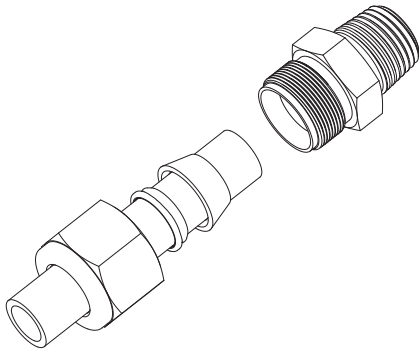

Fig. 3 Nut and Ferrule Orientation
3. Insert tubing into the FITOK end fitting to be presetted. Disassemble the nut from the end connection, leaving the nut and ferrules on the tubing. The orientation of the nut, rear ferrule, and front ferrule should be as shown in Fig. 3.